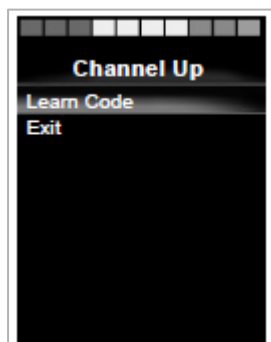

Figure 42
5. Select Learn Code, by using the right button on the Omni while the command is highlighted (figure 42).
6. Point the TV remote control at the OMNI2's receiver LED and press the TV remote Channel Up button twice (figure 42).